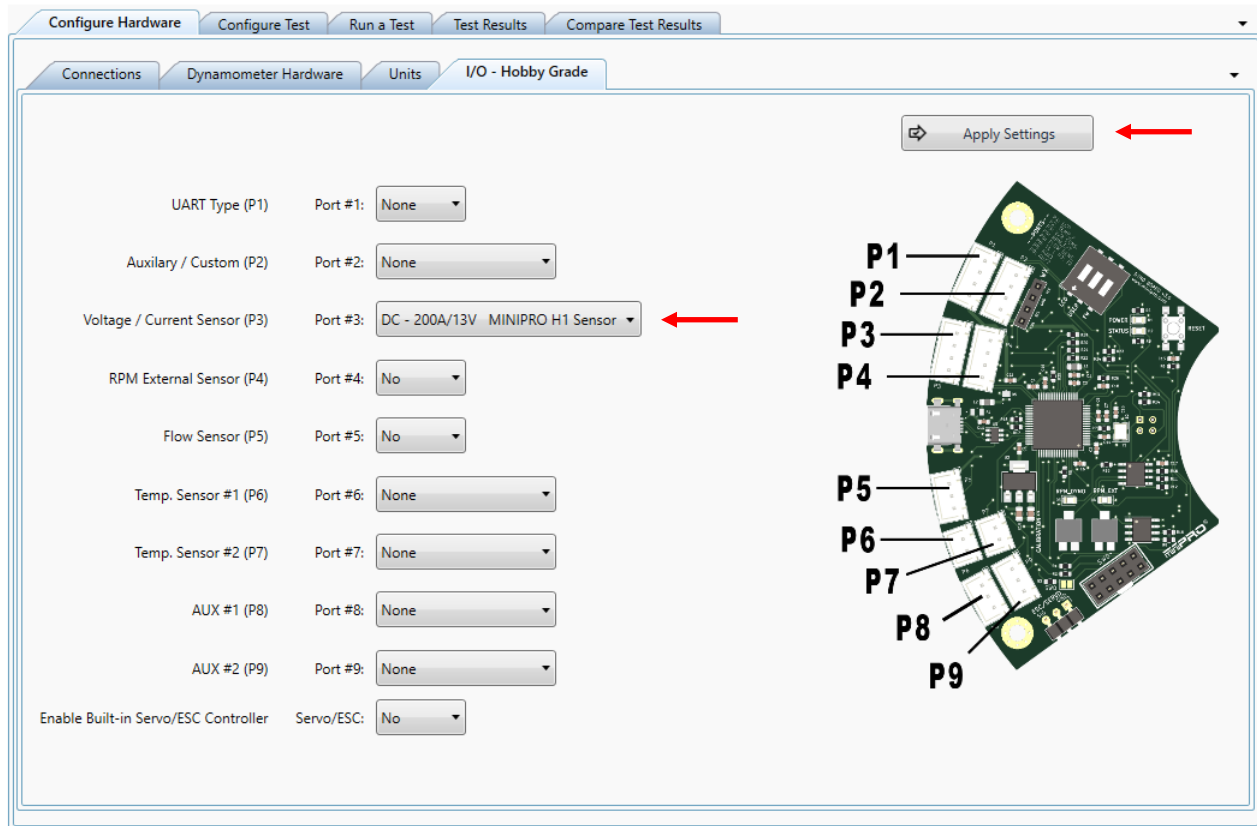

Figure 3: I/O Configuration
4. Select the installed sensors from the drop-down (i.e. for voltage and current sensor see *Figure 3*).